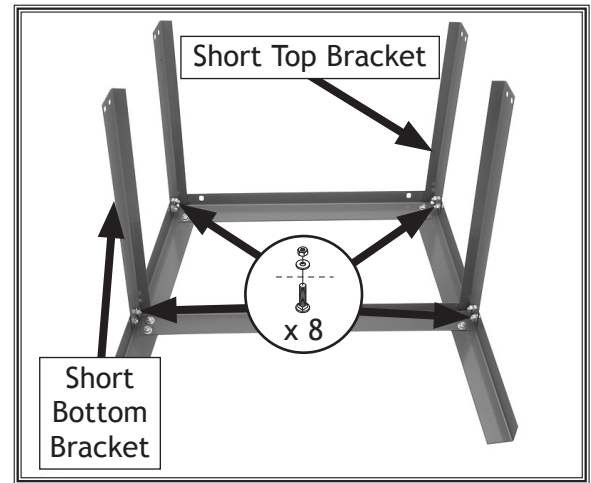

Figure 4. Short top and bottom brackets secured to a leg assembly.
3. Secure the short top and bottom brackets to one of the leg assemblies with eight M8-1.25 x 12 carriage bolts, flat washers, and hex nuts (see **Figure 4**).